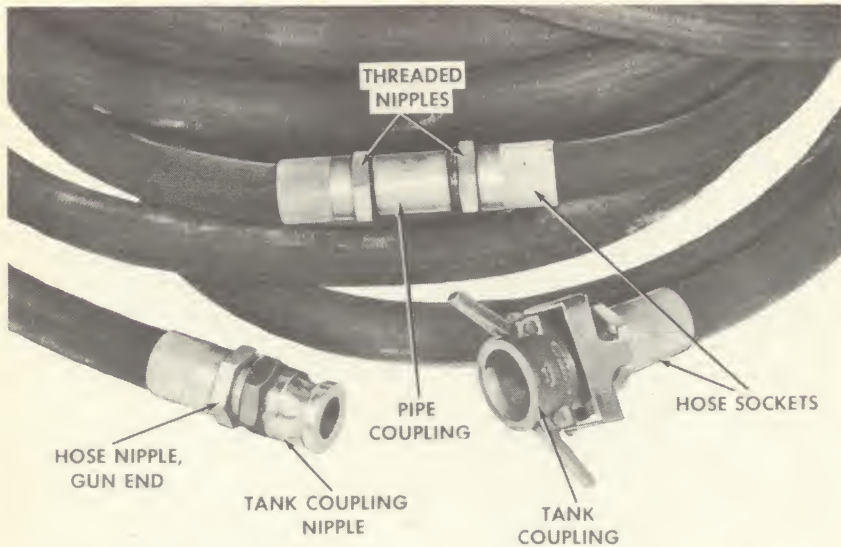

Fig. 33. Manifold fuel hose connections.
(1) Hose. Made of synthetic rubber and reinforced with a cover of metal wire and cotton braid, the hose resists the action of gasoline and oil. It withstands abrasion and internal pressure of approximately 1,000 pounds per square inch. Inside diameter is 7/8 inch and outside diameter is approximately 1-1/4 inches. The hose is provided in a maximum of four lengths totalling 100 feet, with the lengths joined by 3/4-inch iron pipe couplings (fig. 33).
(2) Couplings. A coupling nipple screwed on one end of the 100-foot hose fits into and may be locked in the end tank coupling of the manifold assembly. A tank coupling screwed onto the other end of the hose connects the 100-foot hose to a second 100-foot hose or to the manifold gun.
b. Removal. (1) To remove hose assembly from the gun, the manifold assembly, or a second hose assembly (par. 12), uncouple.